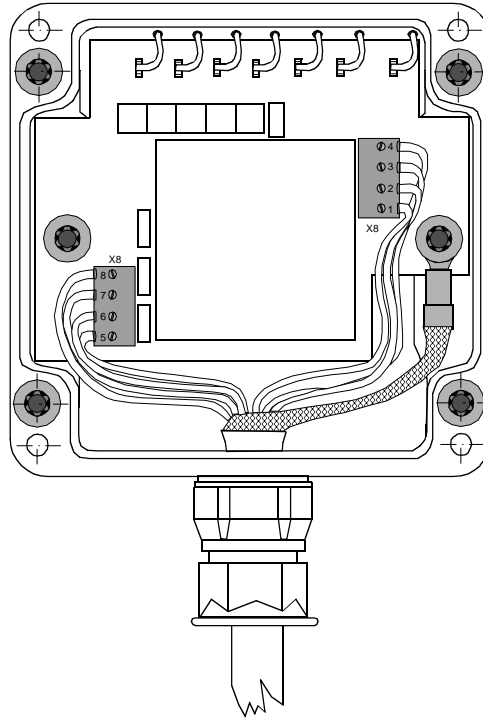

Figure 4-9. Connecting the signal cable in the connection box on the search coil
2. Connect the cable to the divided terminal block X8 according to Figure 4-9 and Table 4-3. **Keep the wires in the connection box as short as possible.**